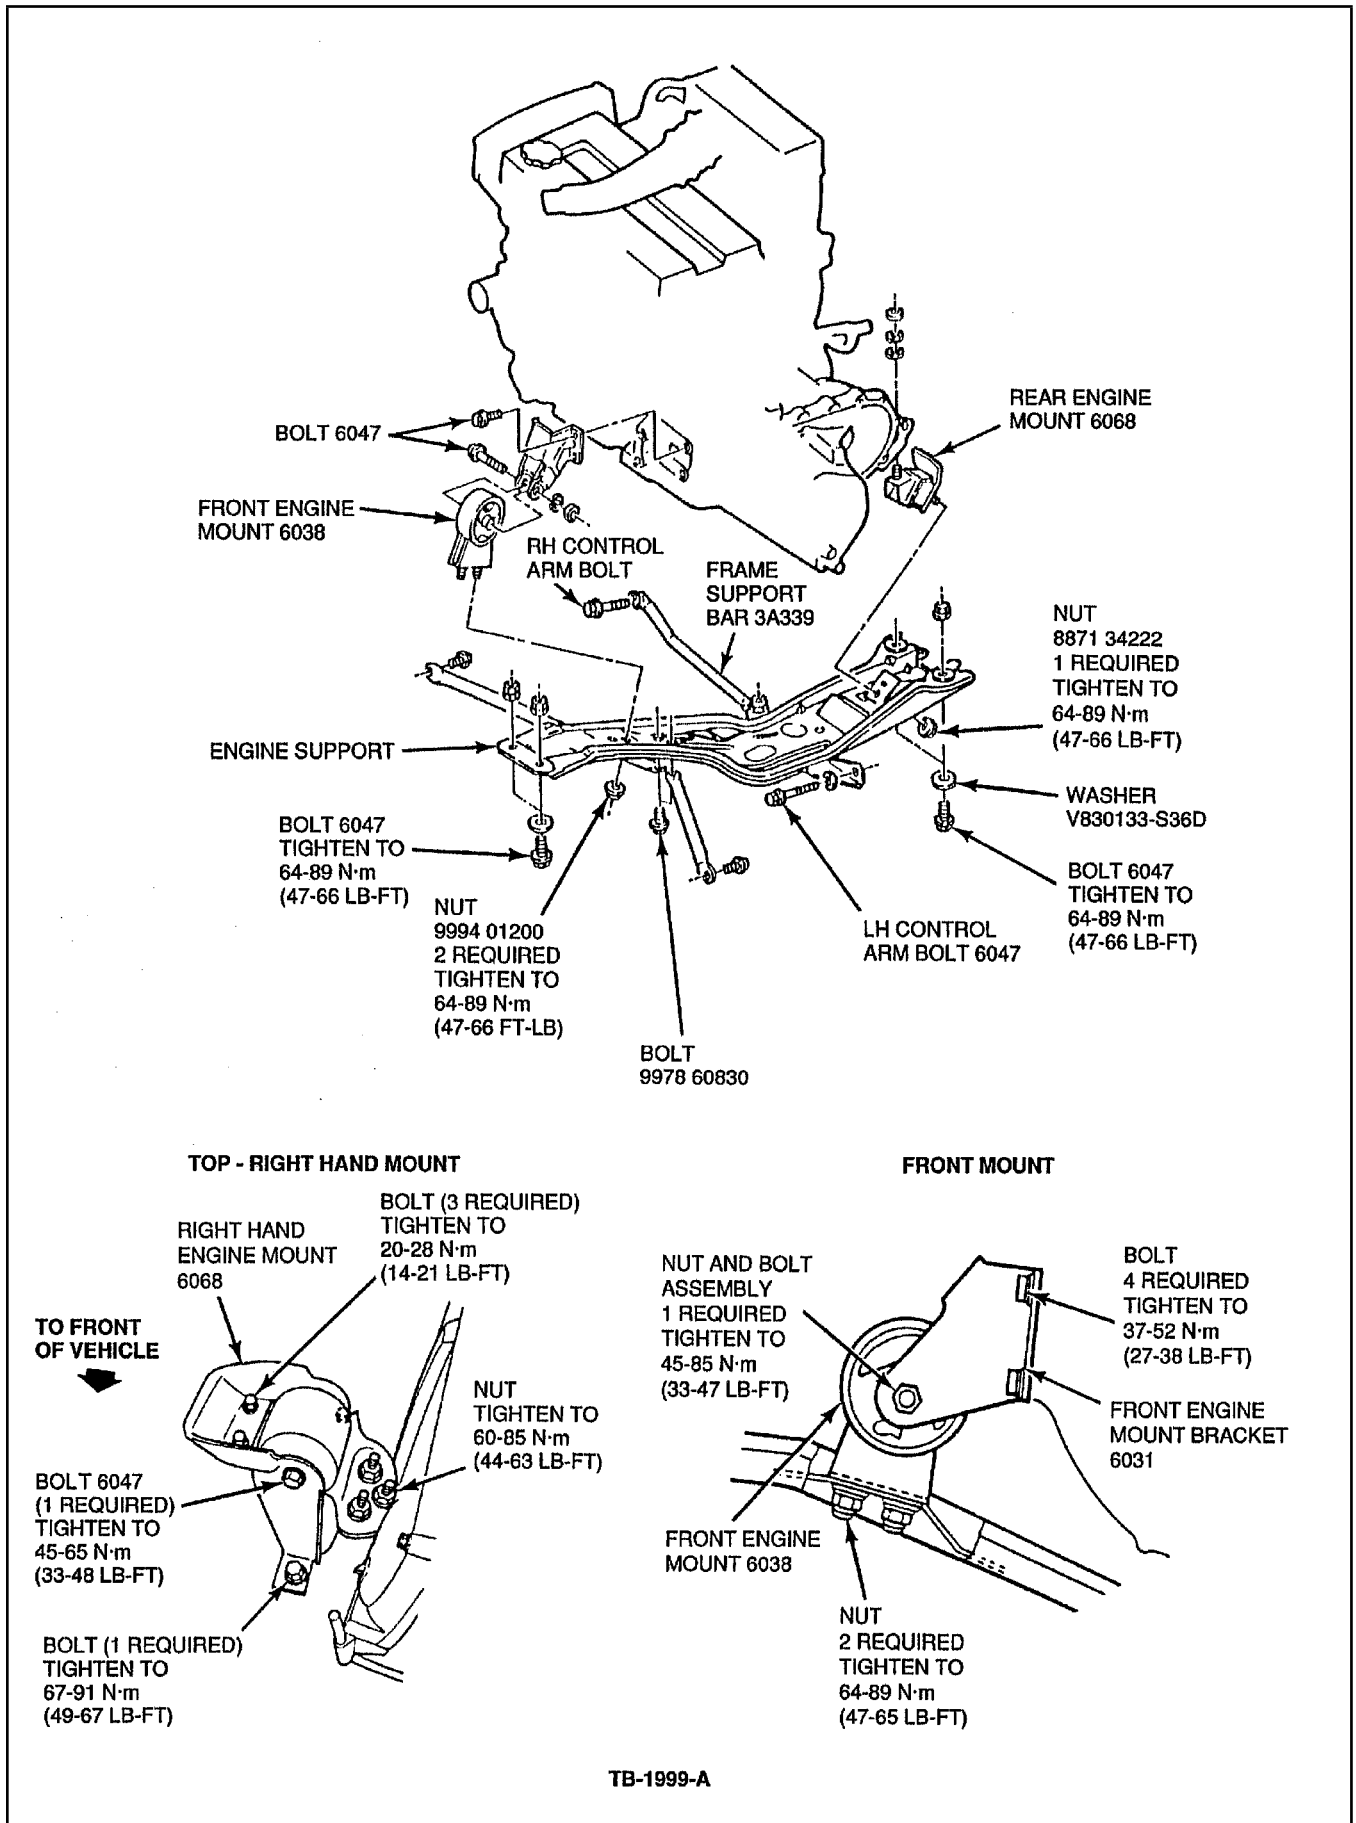

Figure 2 - Article 91-4-7
1. Inspect the engine support for the presence of underbody sealer or tape between the engine support and the mounting surface to the underbody, Figure 2.